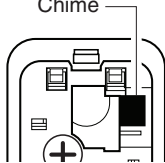

Figure 5 - Determining Correct Jumper Position (Back of Push Button)
7. If you have an electronic chime, move the jumper on the back of your push button from the two bottom pins to the two top pins (see Figure 5). Press push button to test again.